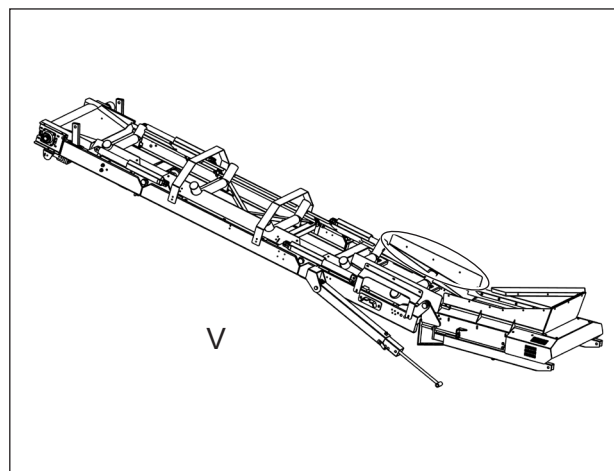

Figure 6.7 - Lower Section of Conveyor
9. Fix the side conveyor skirting to the lower section of the conveyor (V), Ref: Figure 6.7.